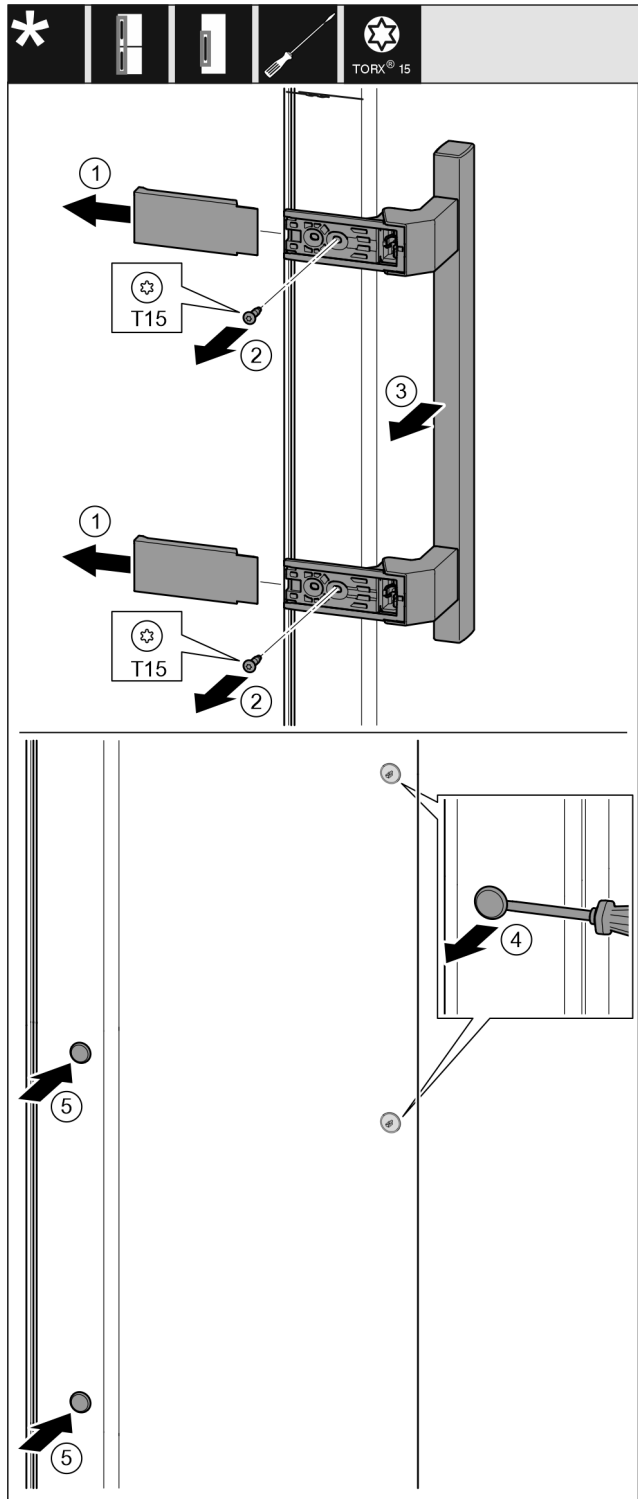

Fig. 21
- ▶ Pull off the cover. Fig. 21 (1)
- ▶ Remove the screws with the T15 screwdriver. Fig. 21 (2)
- ▶ Remove the handle. Fig. 21 (3)
- ▶ Carefully lift up the side plugs with a slotted screwdriver and pull them out. Fig. 21 (4)
- ▶ Insert the plugs again on the other side. Fig. 21 (5)